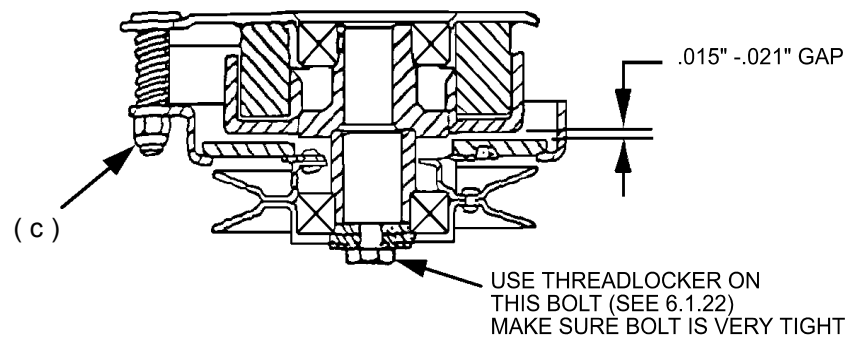

FIGURE 14
- c) Place .015-.021 inch feeler gauge through each of the three clutch gap holes. If gap exceeds this range, tighten the three adjusting nuts (c) until the proper gap is obtained (See Figure 14). The three clutch gap holes are located at the “nut side” of the adjusting bolts. The adjusting bolts can be identified by the springs surrounding each bolt.